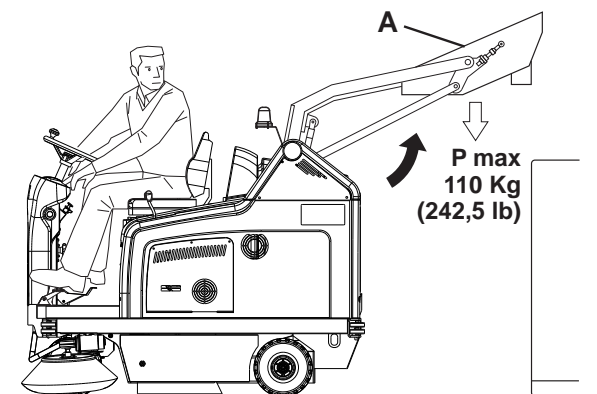
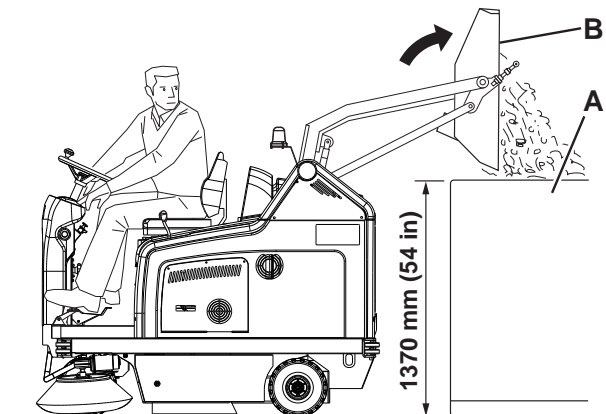

Figure 1
Figure 2
1. The hopper maximum dumping height is 1,370 mm (see Fig. 2).
- Turn off the vacuum system with the switch (56).
- Turn on the filter shaker by pressing the upper part of the switch (56).
*When lifting and emptying the hopper (4), engage the parking brake with the pedal (75) and the lever (68).*
3. Keep people away from the machine and from the hopper (4) especially.
4. Press the enabling switch (51) while pressing the hopper lifting switch (57) to lift the hopper (A, Fig. 1) up to the desired position.
5. Press the enabling switch (51) and the dumping switch (58) of the hopper (B, Fig. 2) at the same time, and discharge all the debris in the dustbin (A).
*The hopper (A, Fig. 1) can be dumped only when lifted at a minimum height of 270 mm.*
6. Press the enabling switch (51) and the hopper dumping switch (58) at the same time to bring the hopper back to horizontal position.
7. To lower the hopper, press the hopper enabling switch (51) while pressing the hopper lowering switch (57).